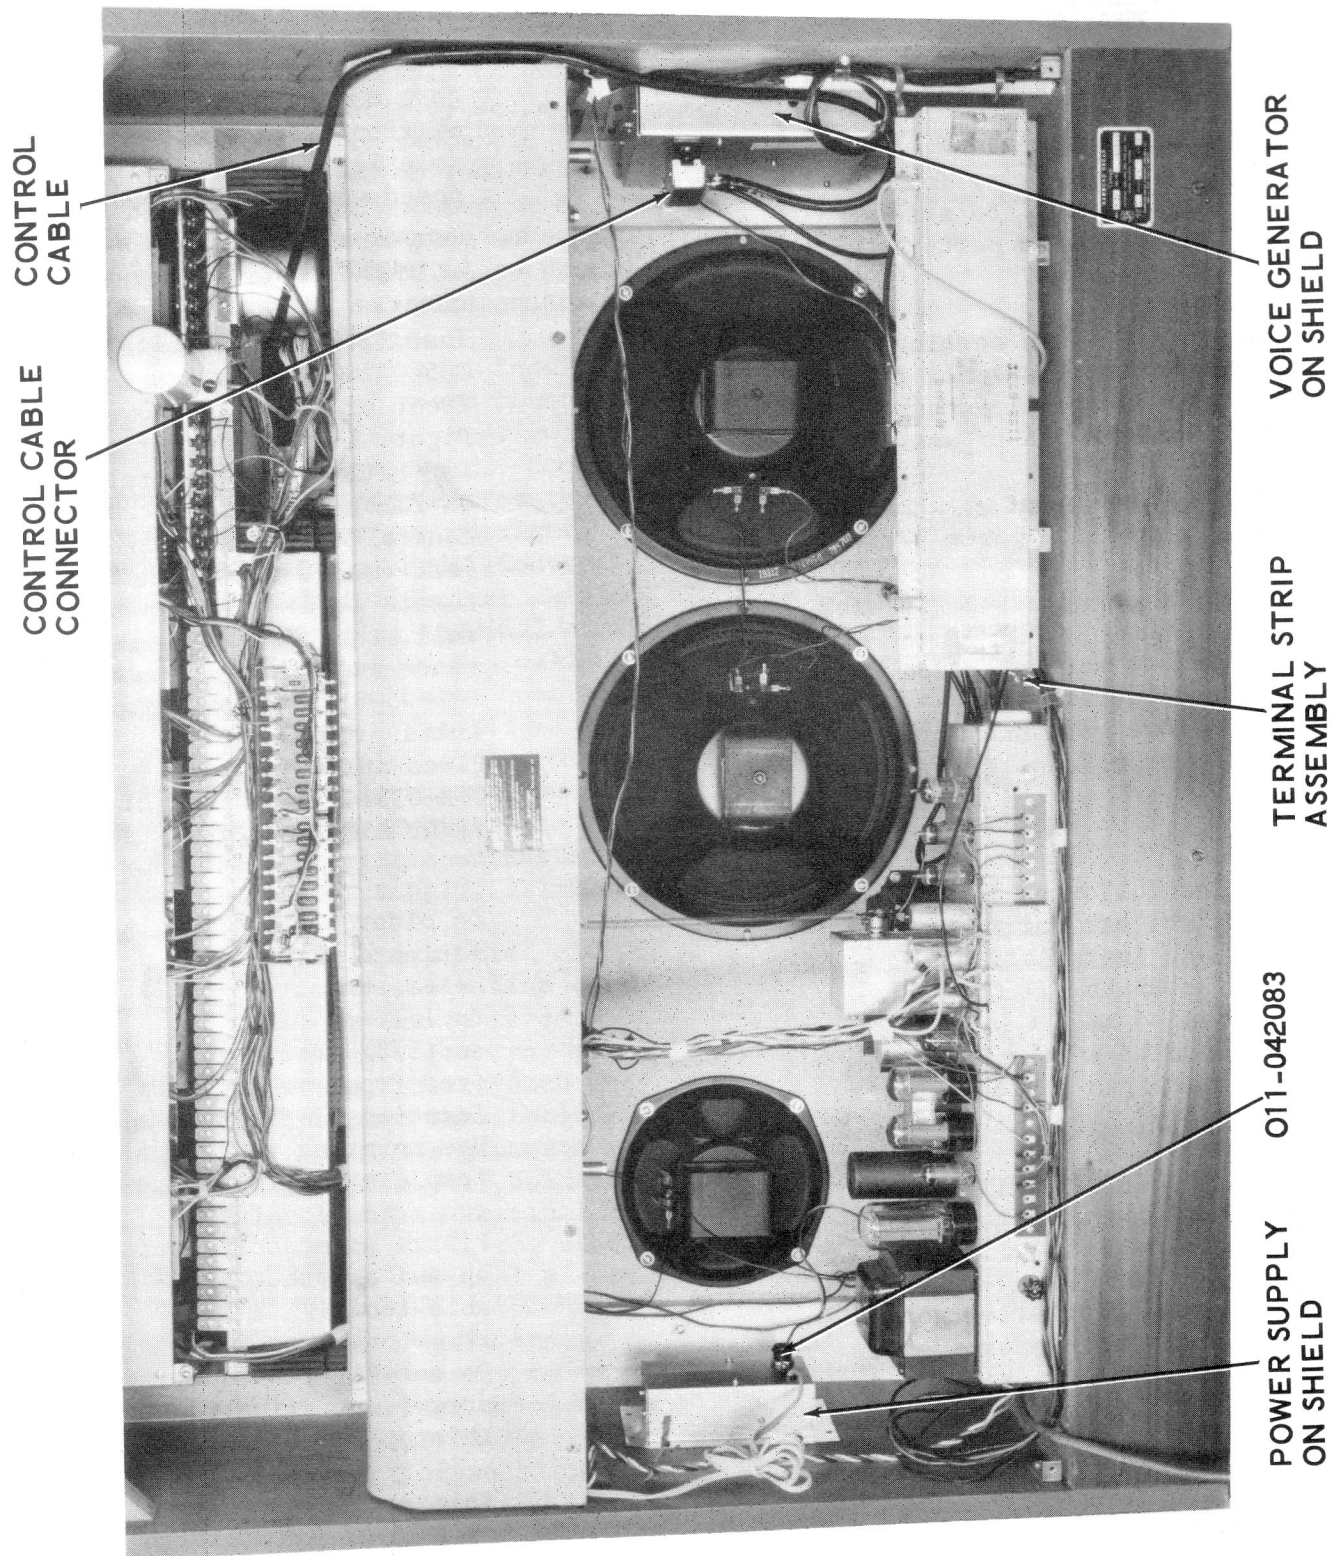

FIGURE 3-1.
The power supply is to be installed in the position indicated in Figure 3-1, on left panel (rear view) of organ.
Observe position of voice generator, 063-042080, as shown in Figure 3-1.
Install terminal strip assembly on bottom shelf of organ as shown in Figure 3-1, using the screw which holds the plastic cable clamp located to the right (rear view) of the amplifier chassis.
- h. Route control cable with 16-pin plug attached, along the right panel (rear view) and down the cutaway made in the preceding step to the voice generator assembly. See Figure 3-1. Mate the 16-pin plug to the socket on the voice generator.